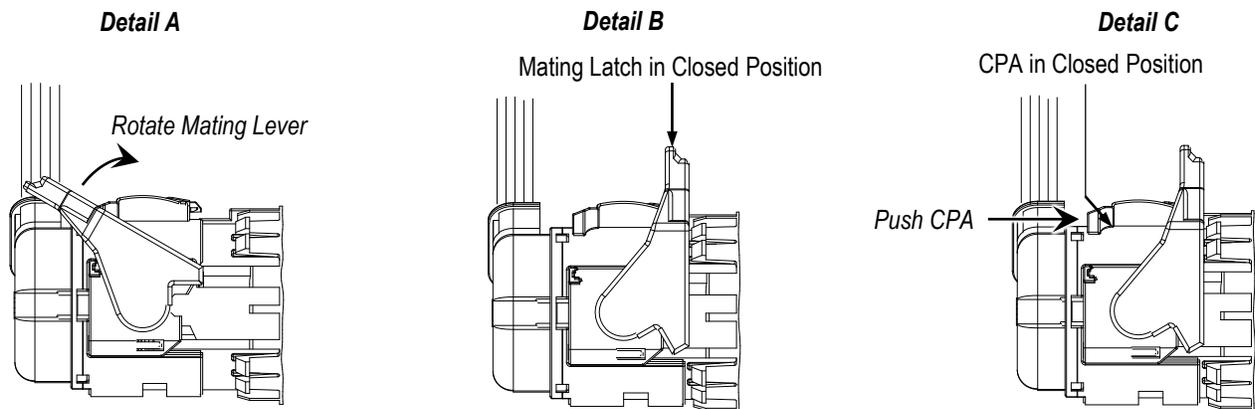

Figure 7
- Manually rotate the mating lever (toward the cap assembly) until it stops. There should be an audible click. See Figure 7, Detail A. The mating lever is now in the closed position, and the plug and cap assembly are fully mated. See Figure 7, Detail B.
- Push the CPA toward the cap connector. The CPA is now in the closed position. See Figure 7, Detail C.